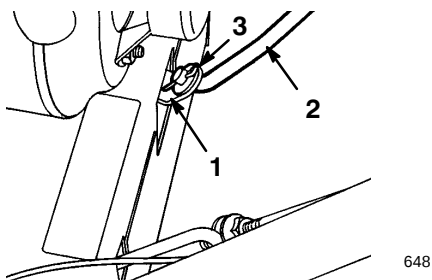

Figure 5
- Pull the speed selector arm (Fig. 5) to the most outward position.
- Install the speed selector rod into the selector arm, add one flat washer on the selector rod, and secure it with a cotter pin (Fig. 5).